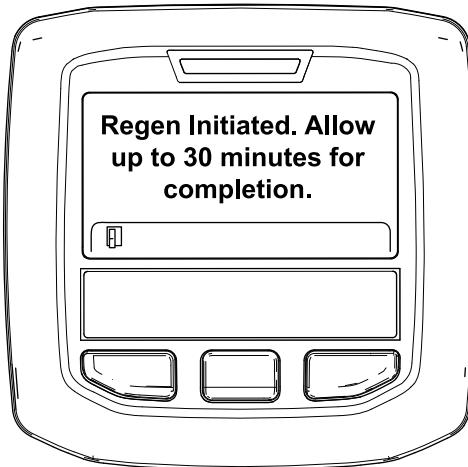

Figure 46
- If the regeneration is allowed, the "Regen Initiated. Allow up to 30 minutes for completion" message displays in the InfoCenter, wait for the machine to complete the parked regeneration process (Figure 46).